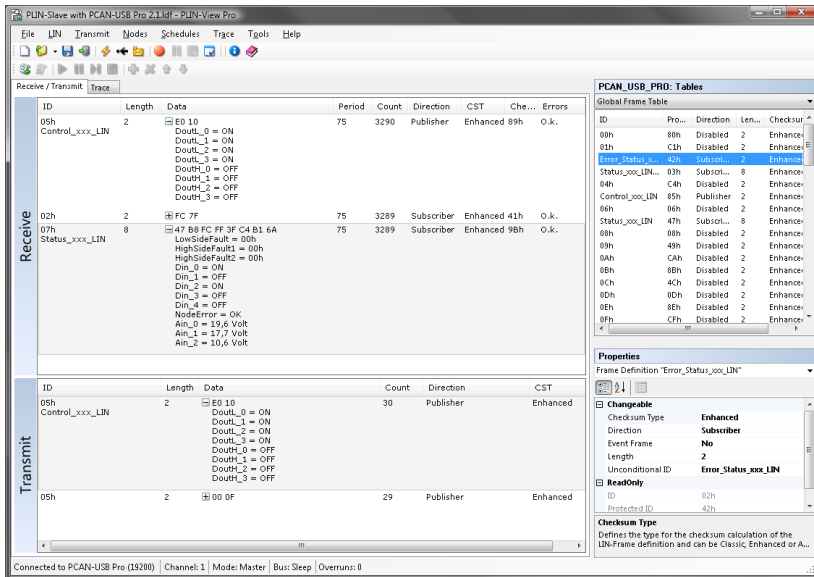

Figure 18: Receive/Transmit tab
6. Finally confirm the settings in the dialog box with **OK**. The main window of PLIN-View Pro appears (see Figure 18).